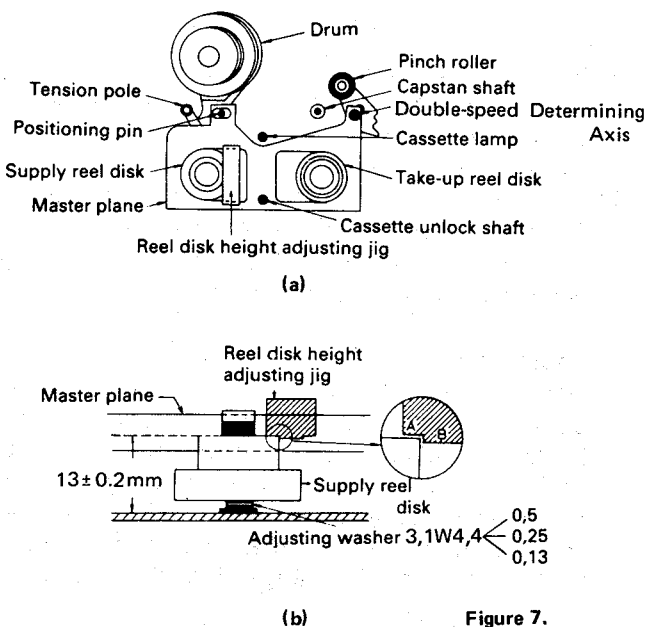

Figure 7.
- 1) Remove the cassette housing and set the master plane in the mechanism as shown in figure 7 (a), taking care not to touch the drum.